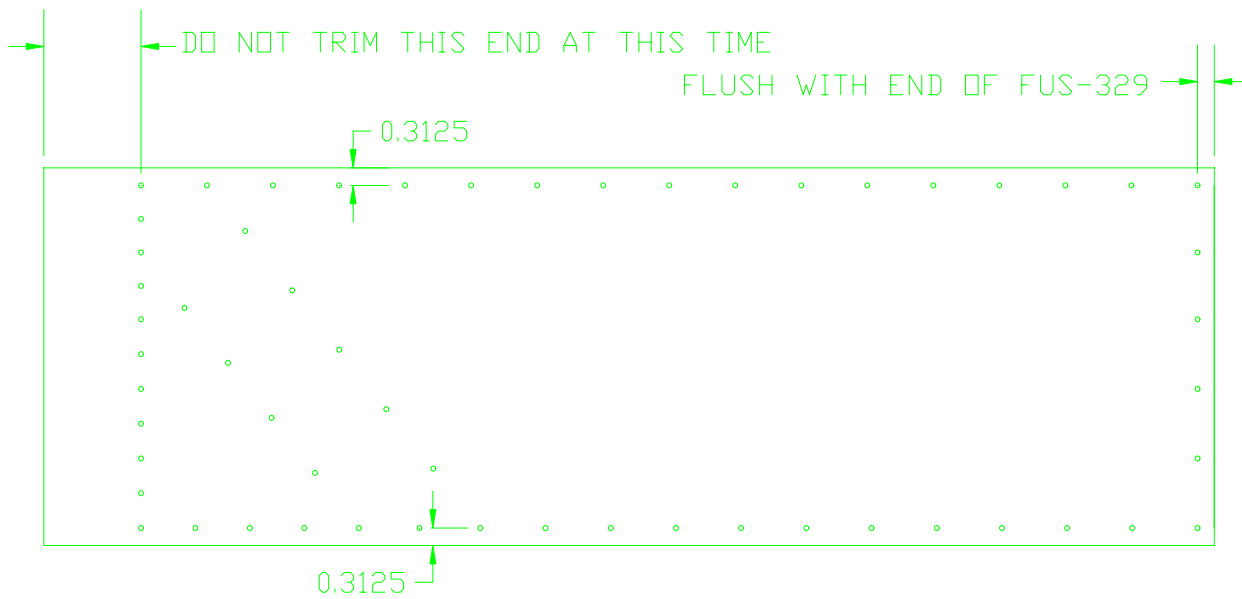

FIGURE 11
- 15) Trim the doubler as in Figure 11.